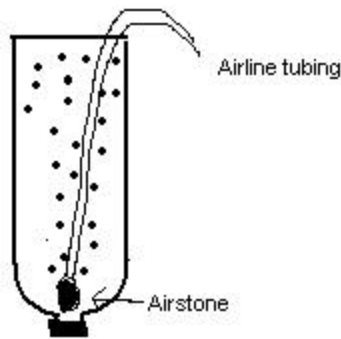

Figure 17: Illustration of the rotifer culture set up utilizing a soda bottle and aeration.
- b) Aeration should be suspended in the water column (not on the bottom of the bottle) to allow excess feed to settle to the bottom of the tank. See figure 17.